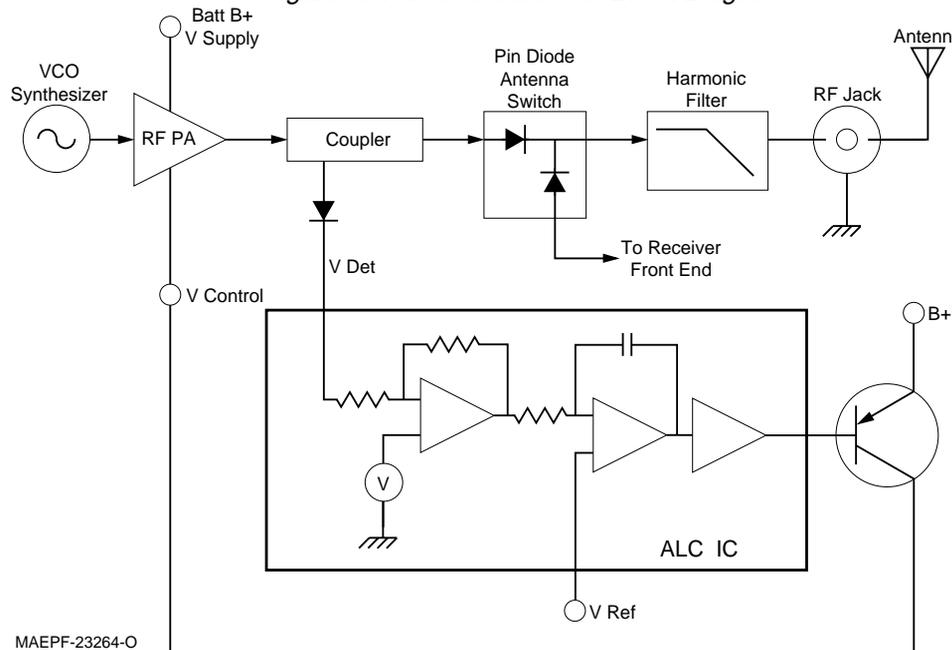

Figure 4. VHF/UHF Transmitter Block Diagram
**E. Transmitter** (See Figure 4)